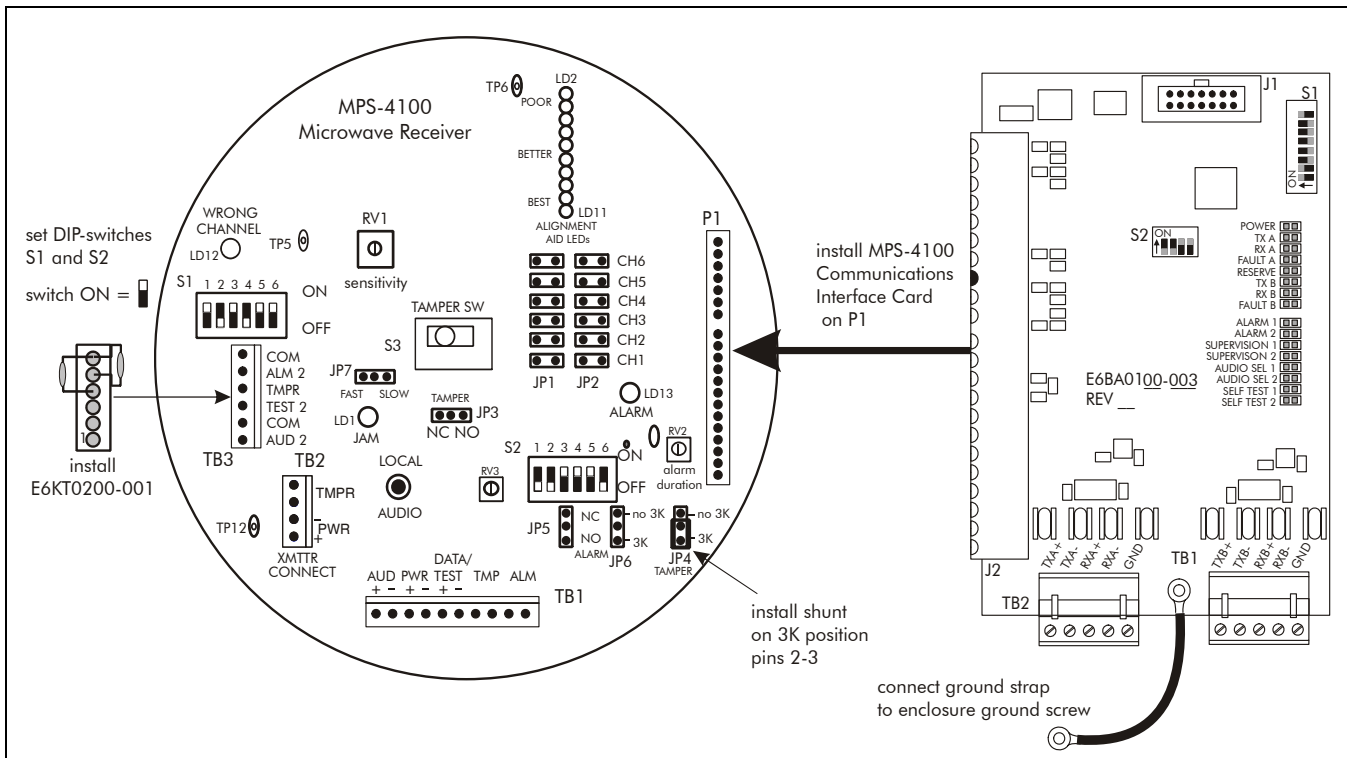

Figure 2-17 Installing the Communication Interface Card
1. Connect J2 on the Communications Interface Card to P1 on the Model MPS-4100 Receiver card (see Figure 2-17). (The card must be fully installed onto the header.)